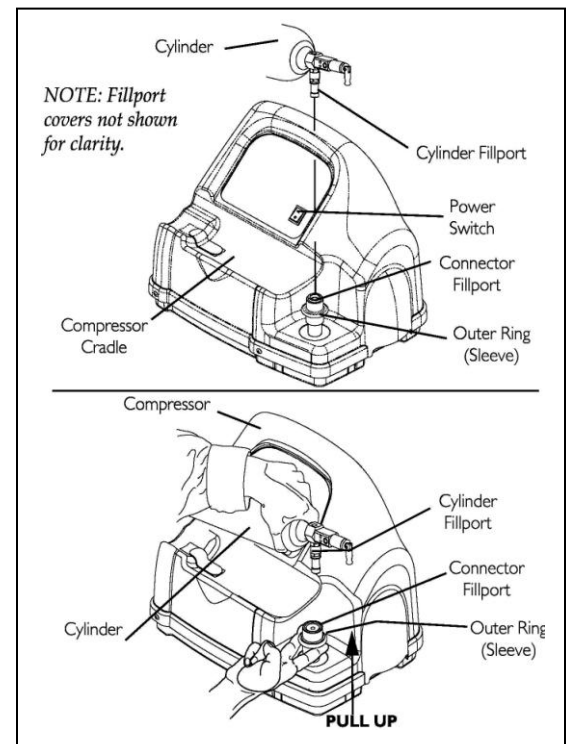

Figure 2
8. Pull **UP** on the outer ring (sleeve) of the connector fillport while pushing **DOWN** on the cylinder to couple the cylinder fillport into the connector fillport (Figure 2).